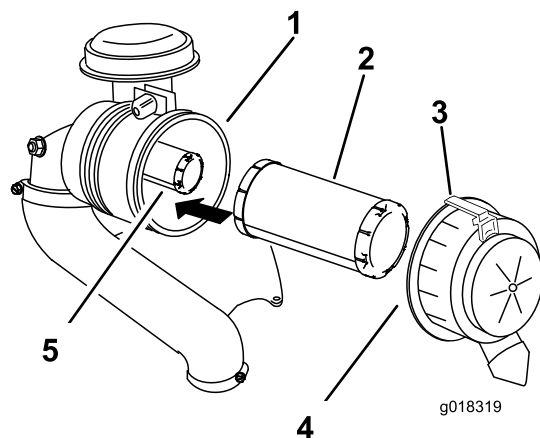

Figure 44
2. Pull the latch outward and rotate the air-cleaner cover counterclockwise (Figure 44).
3. Remove the air-cleaner cover from the air cleaner housing (Figure 44).
5. Gently slide the primary filter out of the air-cleaner housing (Figure 44).
2. Carefully slide the safety filter into the filter body (Figure 44).
3. Carefully slide the primary filter over the safety filter (Figure 44).
5. Install the air cleaner cover with the side indicated as UP facing upward and secure the latch (Figure 44).